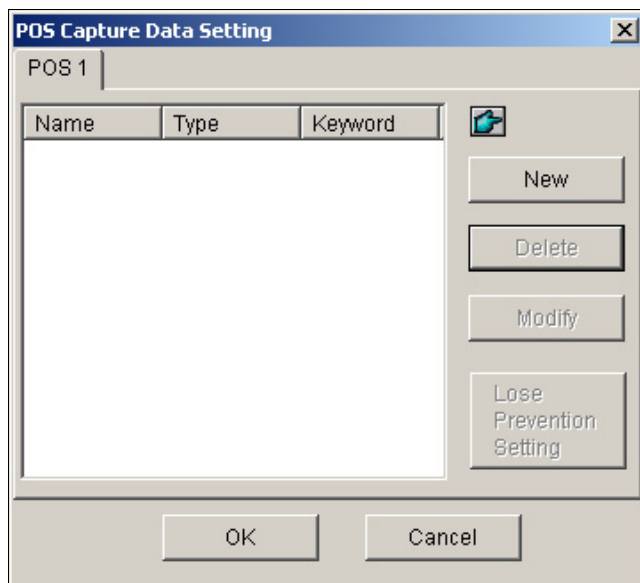

Figure 3-5 POS Capture Data Setting
1. Click the **Configure** button, point to **POS Application Setting**, and then select **POS Field Filter** to display the POS Capture Data Setting window. See Figure 3-5.